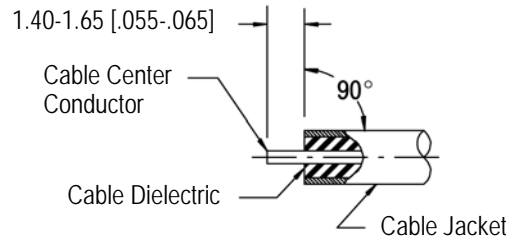

Figure 2
- Strip the cable to the dimensions shown in Figure 2.